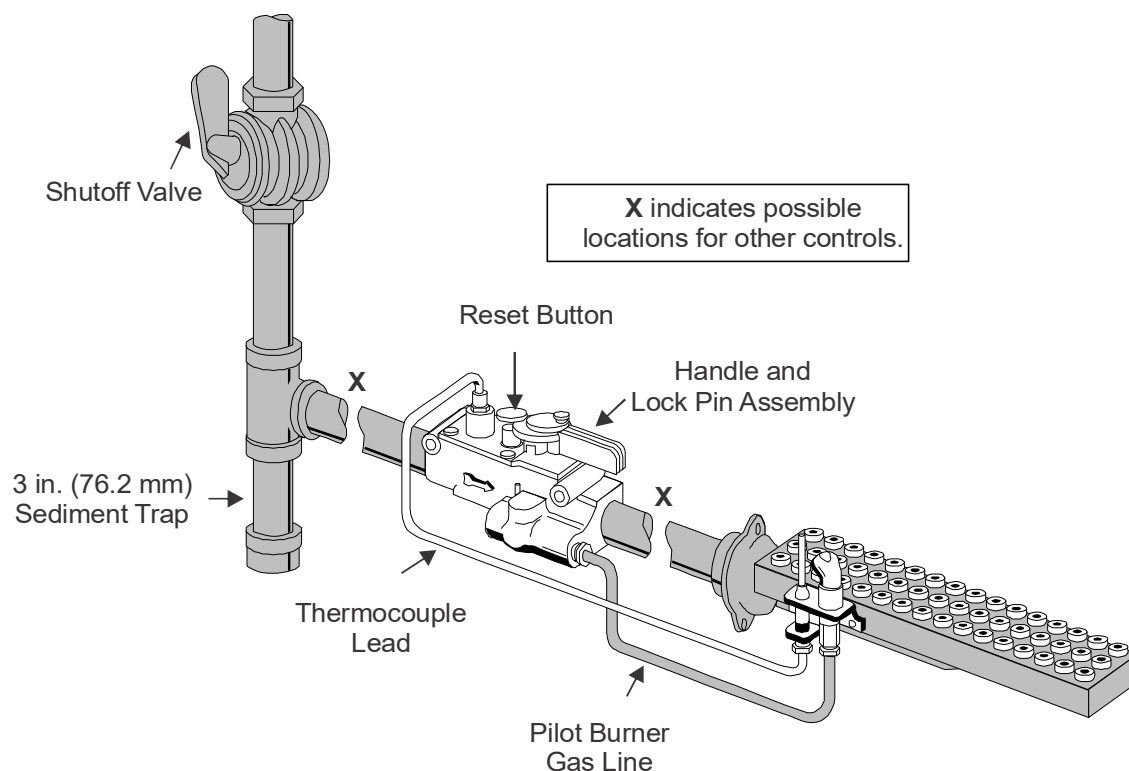

Figure 1: Typical H43 Installation
4. Mount the valve to the pipework. Mount the H43 valve in any convenient position with the reset button and manual valve handle accessible. Use an approved pipe joint sealing compound on the male threads before assembly. Remove excess compound after mounting the valve to the pipework. Threads of the pipe and nipples must be smooth and free of tears and burrs. Steam clean all piping to remove foreign substances such as cutting oil or thread chips before installing the valve. A sediment trap needs to be installed in accordance with the National Fuel Gas Code NFPA 54 (Figure 1).